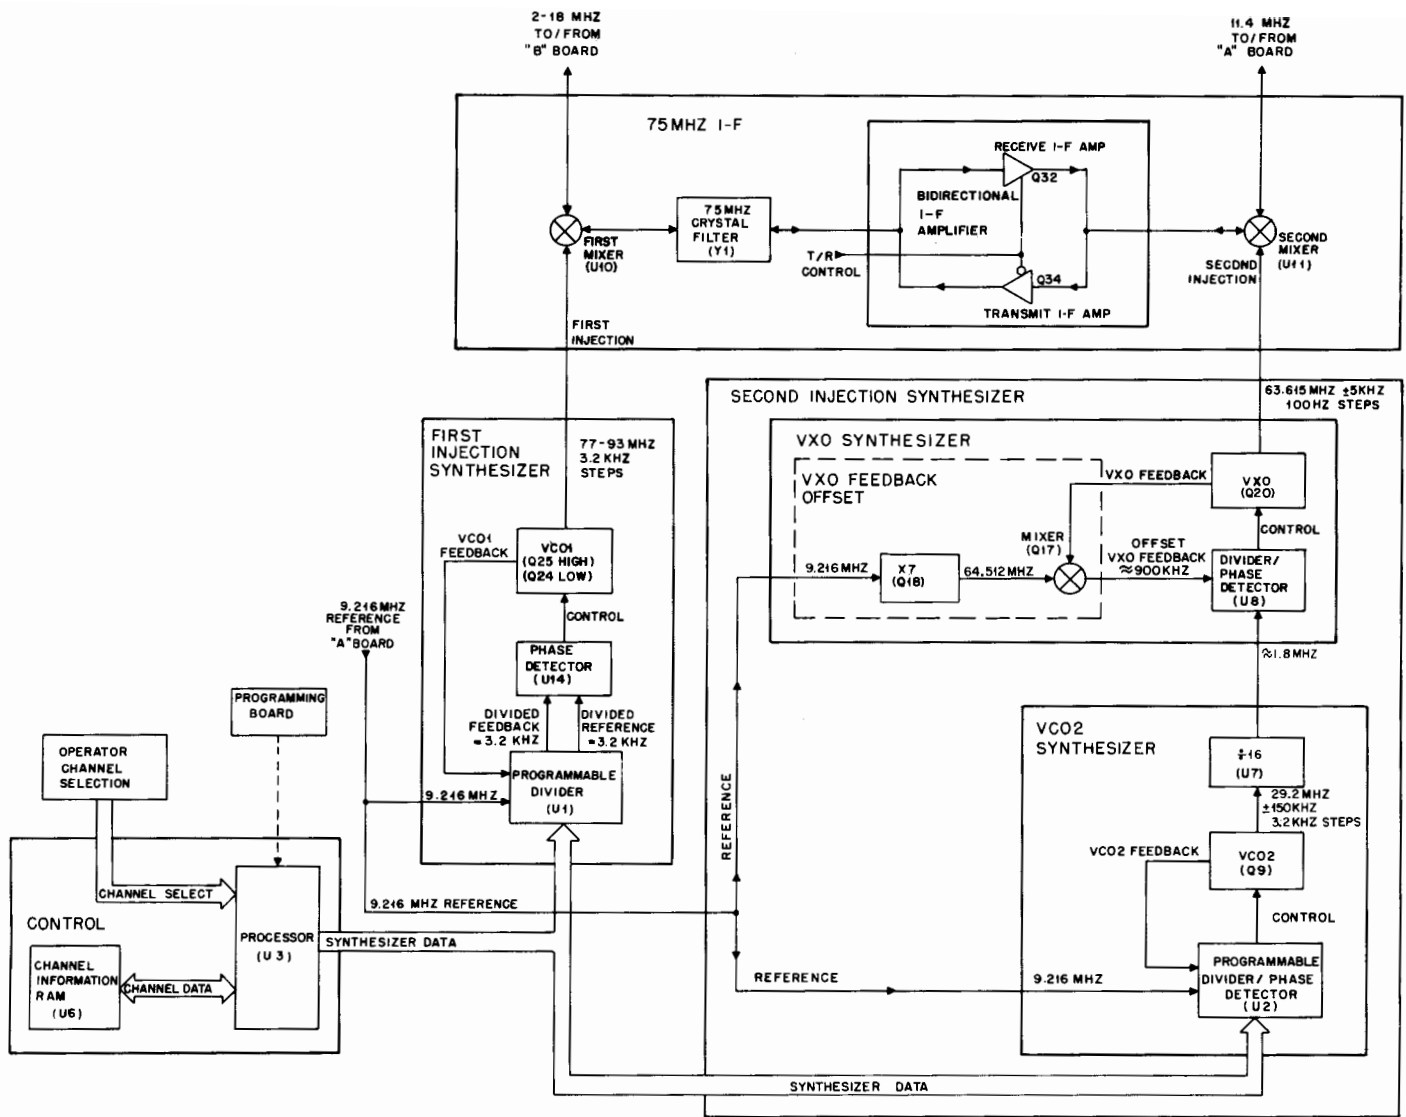

Figure 1. "S" Board Block Diagram
2. "S" BOARD BLOCK THEORY (Refer to Figure 1)